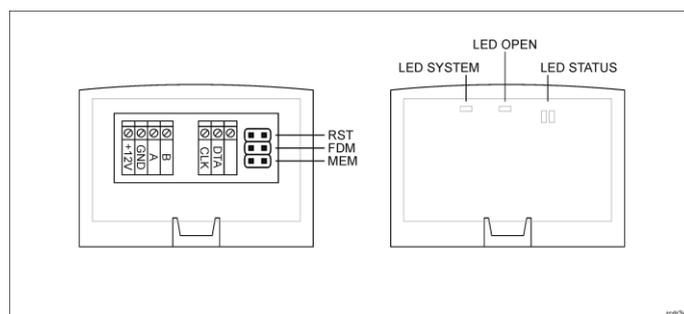

Fig. 3 MCI-2 interface
2. Remove jumper from MEM contacts (fig. 3) and restart the device (short RST contacts for a moment or switch power supply off and on).
2. Place jumper on FDM contacts (fig. 3).